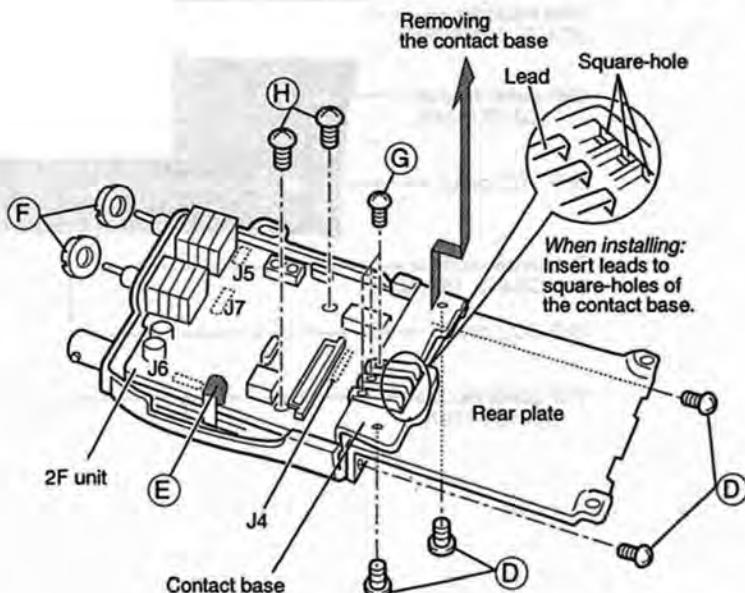

Fig. 3 Removing the 2F unit
- ③ Unsolder the point **E**, and remove 2 nuts **F** (black).
- ④ Unscrew 4 screws, **D** (silver, 2 mm), to separate the rear plate as shown Fig. 3.
- ⑤ Unscrew 3 screws, **G** (silver, 1.4 mm), to separate the contact base and rear panel. Take off the contact base in the direction of the arrow.
- ⑥ Unscrew 2 screws, **H** (silver, 2 mm), and unplug J4 – J7 on the bottom side, to separate 2F and 1F units.